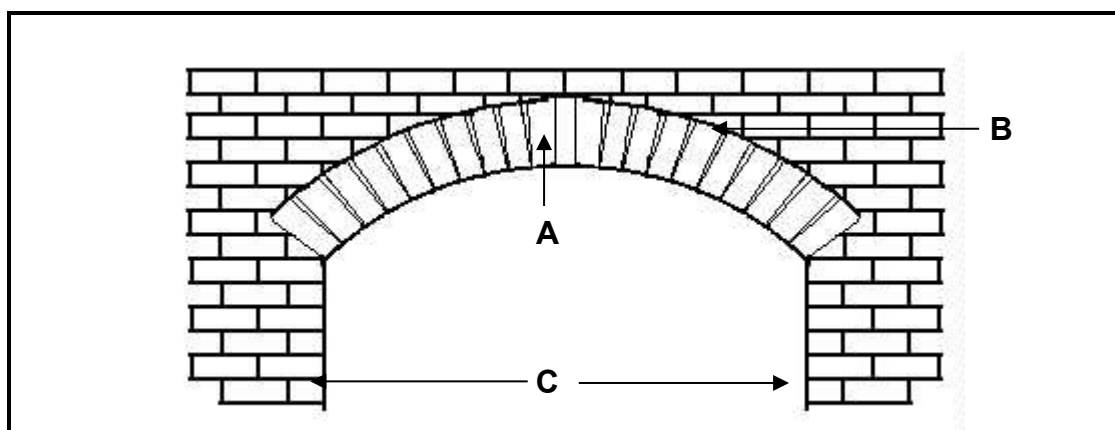

FIGURE 5.10
- 5.10 Answer the following question with regard to the arch in FIGURE 5.10.